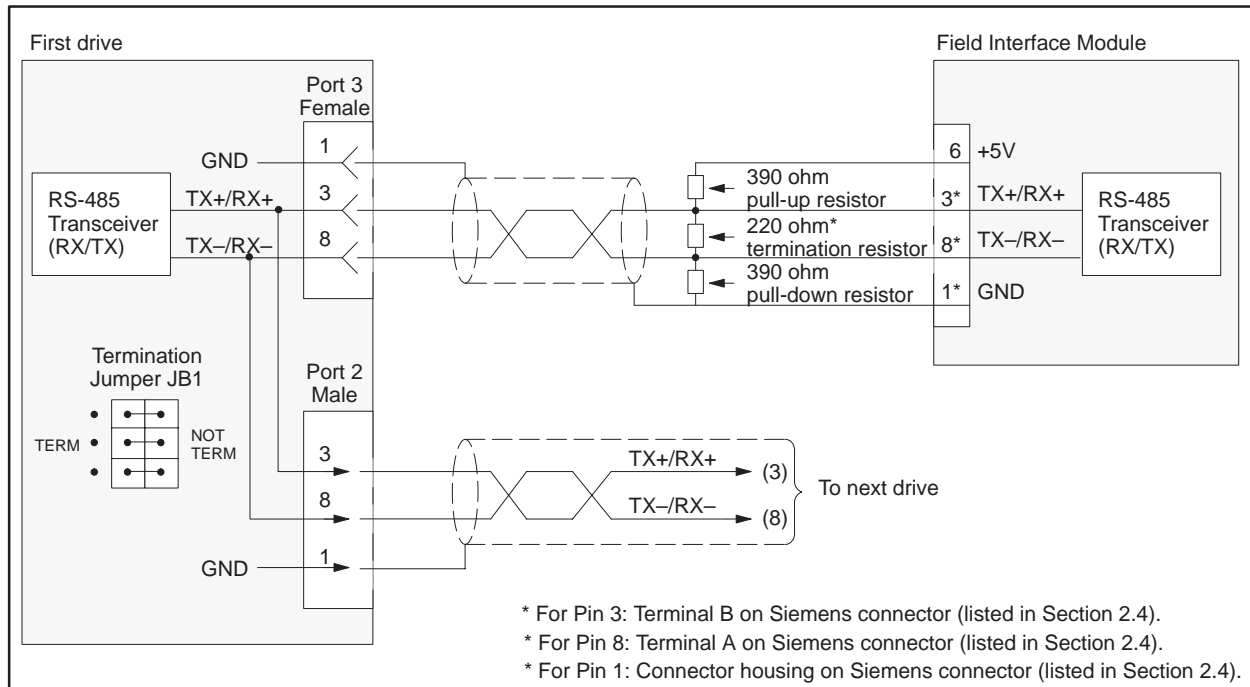
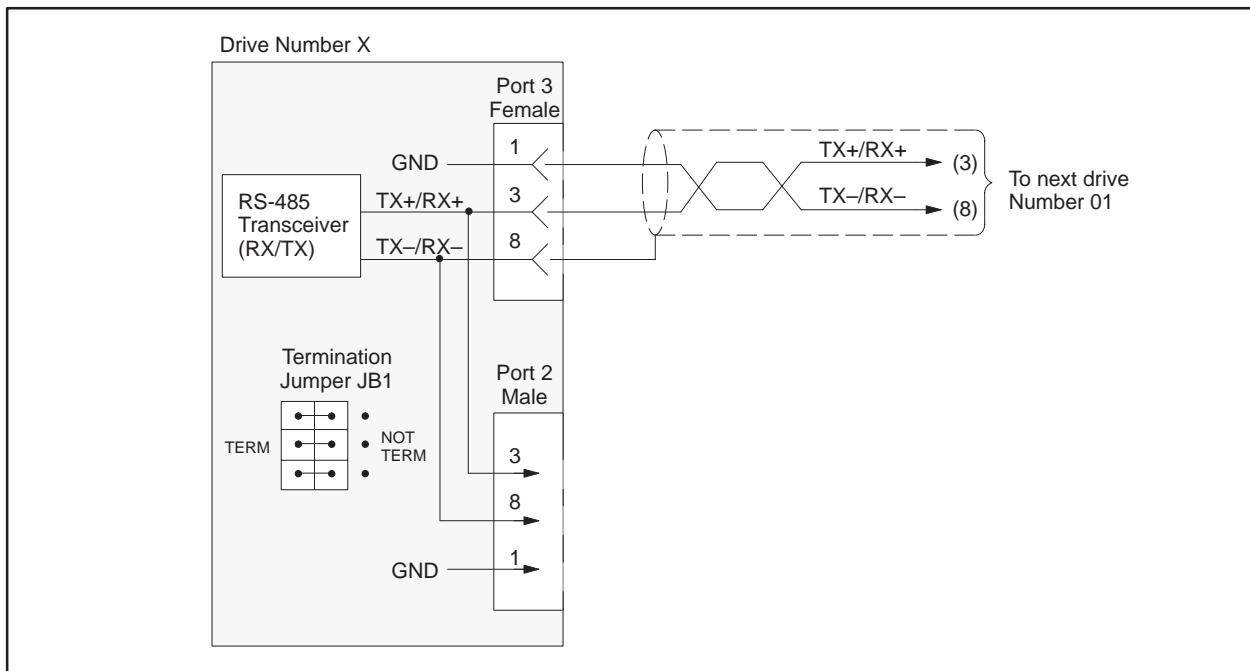

Figure 4-42 SI3 Wiring: All Drives Except End of Bus
Figure 4-43 SI3 Wiring: Drive at End of Bus
- JB1    Figure 4-42 and Figure 4-43 show the correct position of this jumper.
Figure 4-42 shows the wiring for the SI3 (6SE85 Serial Interface Board) for all drives except the end of the bus.
Figure 4-43 shows the wiring for the SI3 (6SE85 Serial Interface Board) for the drive at the end of the bus.